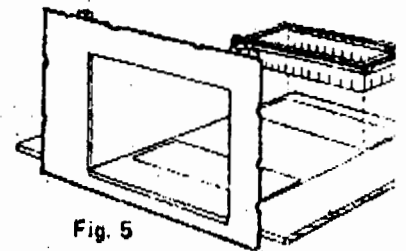

Fig. 5
5. Place the bottom duct connector in the duct opening and bend the tabs over to secure. Seal the connector with duct tape. See Figure 5.